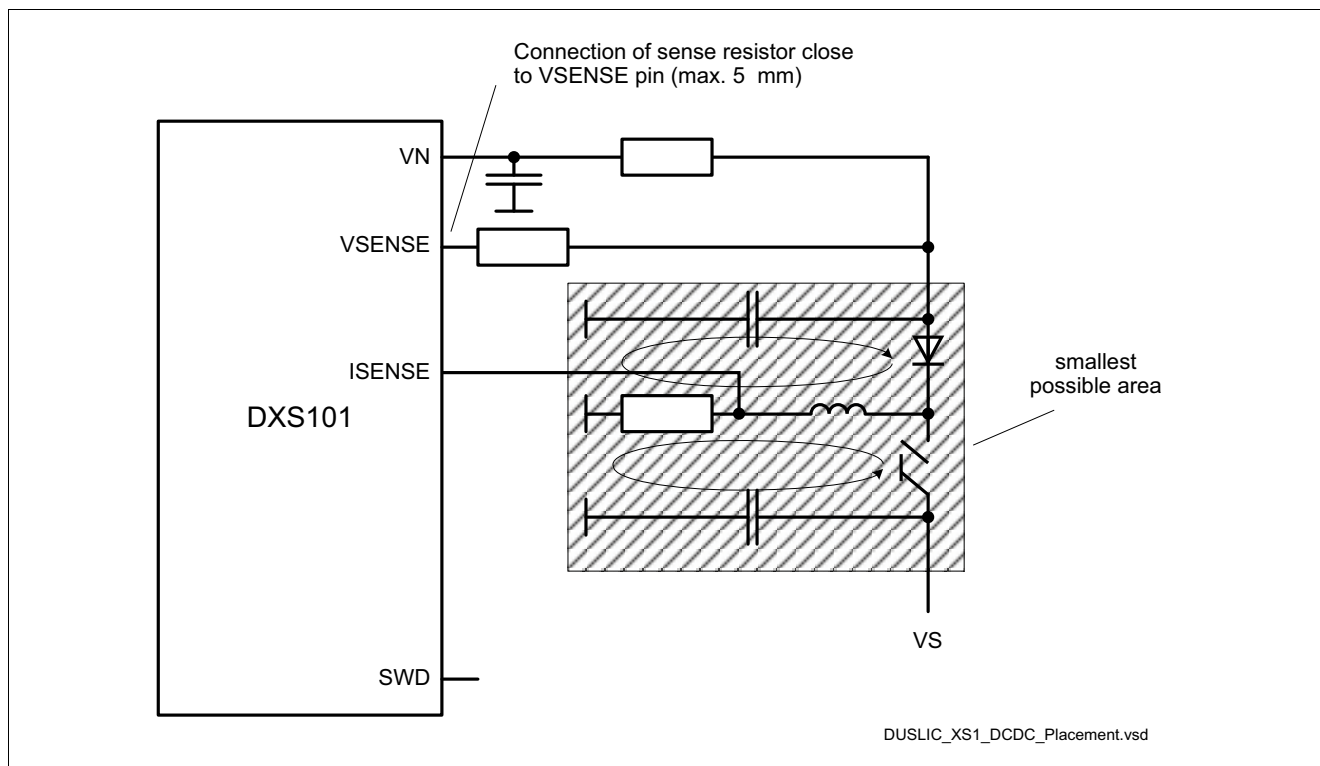

Figure 30 DC/DC Converter Component Placement
- The components of the DC/DC converters must be placed on the smallest possible area, the traces must have a minimum width and coupling to the analog part must be minimized to avoid noise (Figure 30).